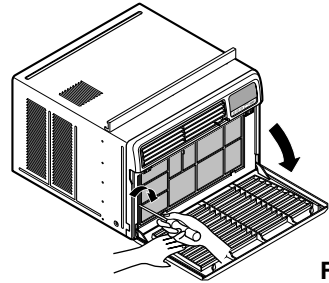

Fig. 21
- 10 Attach the front grille to the cabinet by inserting the tabs on the grille into the tabs on the front of the cabinet. Push the grille in until it snaps into place. (See Fig. 21)
- 11 Lift the inlet grille and secure it with a screw (Type A) through the front grille. (See Fig. 21)